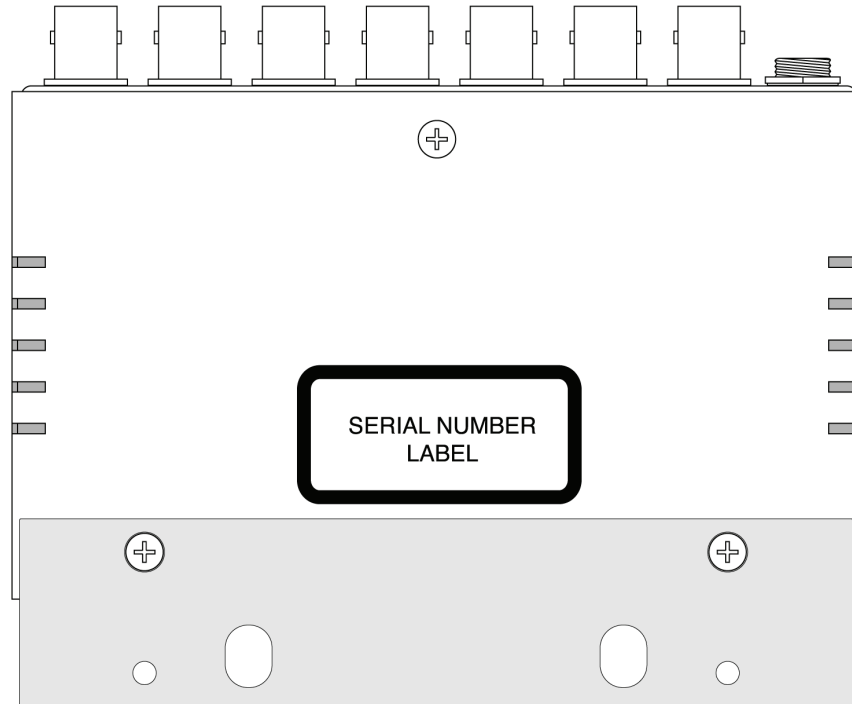

Figure 3. Flat Metal Plate Installation Option
1. Affix the flat metal plate to the bottom of the module using the chassis screws as shown in Figure 3.